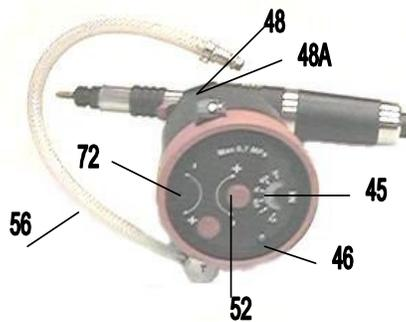

figure 6.1
- Compressed air supply hose (0.5 m length, 6 mm ID), with union coupling (item 56, see fig. 6.1).
- Pressure relief valve (item 48) acting as safety valve to prevent overloading of the tool. The valve opens if the compressed air pressure exceeds 7 bar.